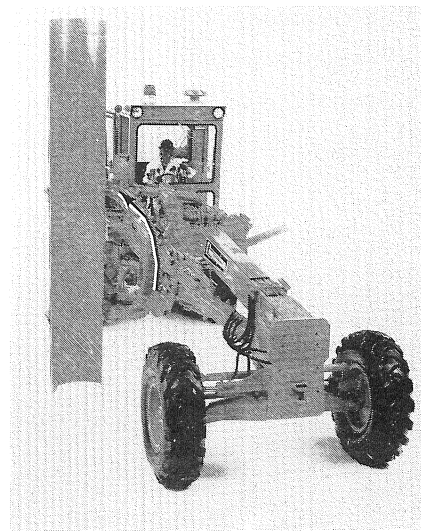

Figure 5
8. Rotate the circle to obtain the position shown in Fig. 5. This is the 90° hi-lift position.